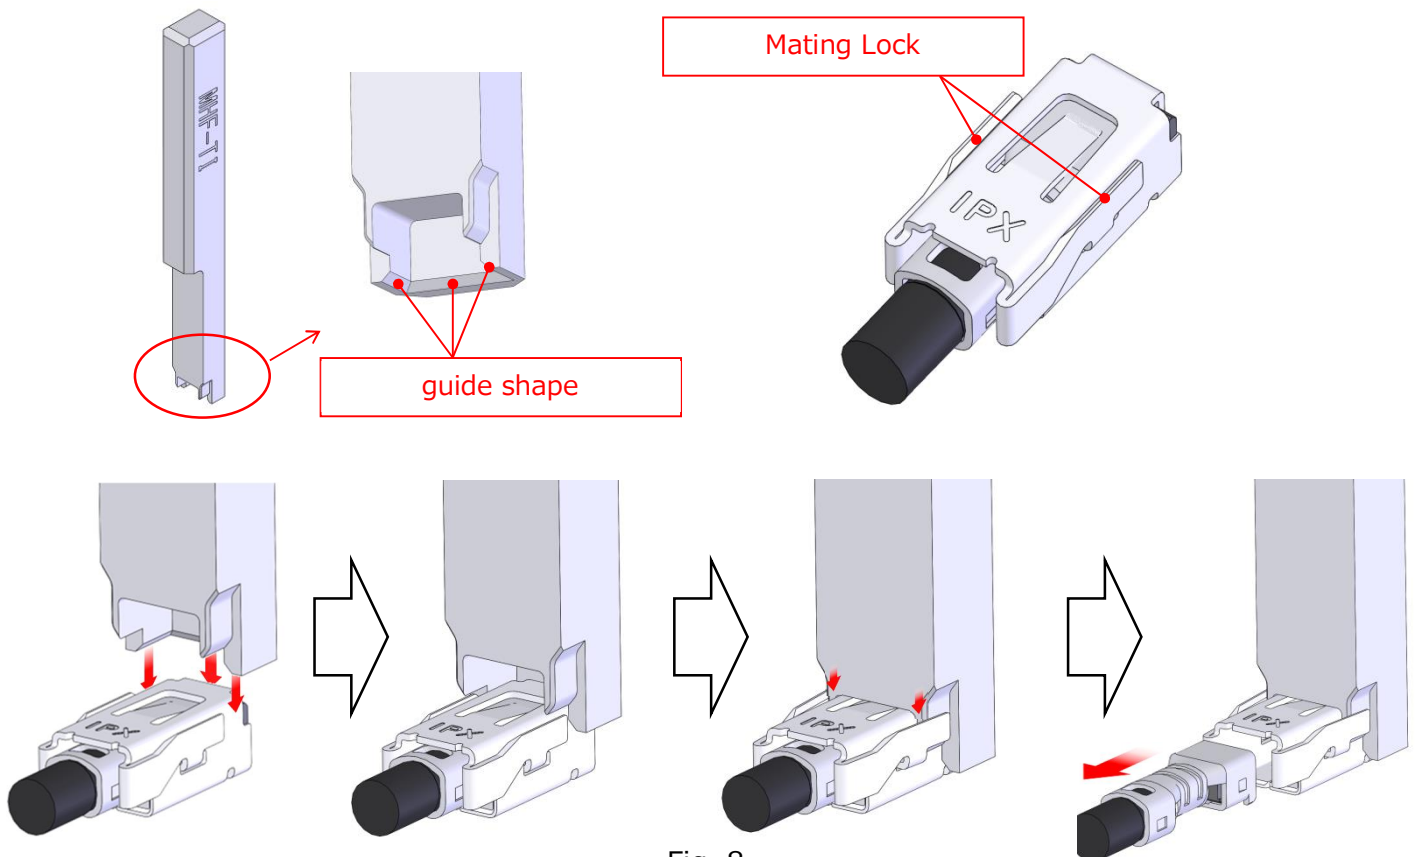

Fig. 8
- ① First, set the unmating JIG to the receptacle along the guide shape as shown in Fig. 8. Next, push the JIG vertically and unlock the mating lock. Keep unlock condition with JIG and pull the plug horizontally for unmating. Unmating operation will be easier with fixed receptacle.